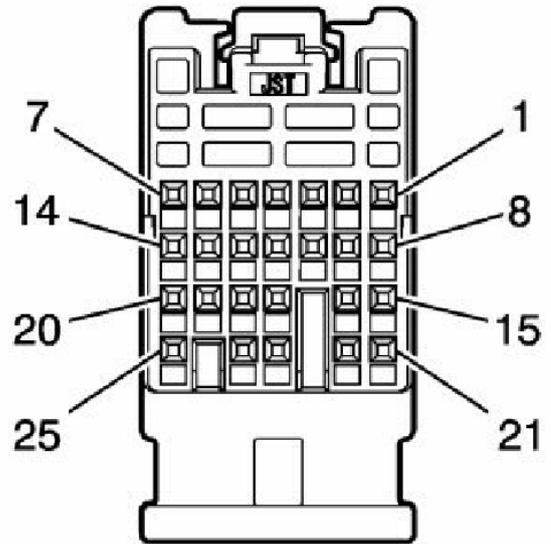

Figure 10 - X3 BCM
- 6.1 Cut of the insert from the end of the yellow cable and connect the cable for the steering wheel button (9) to the cable that goes to pin 16 on the third connector from below in the BCM. The connector is indicated in Figure 15. See Figure 10 for pin numbers. The cable end